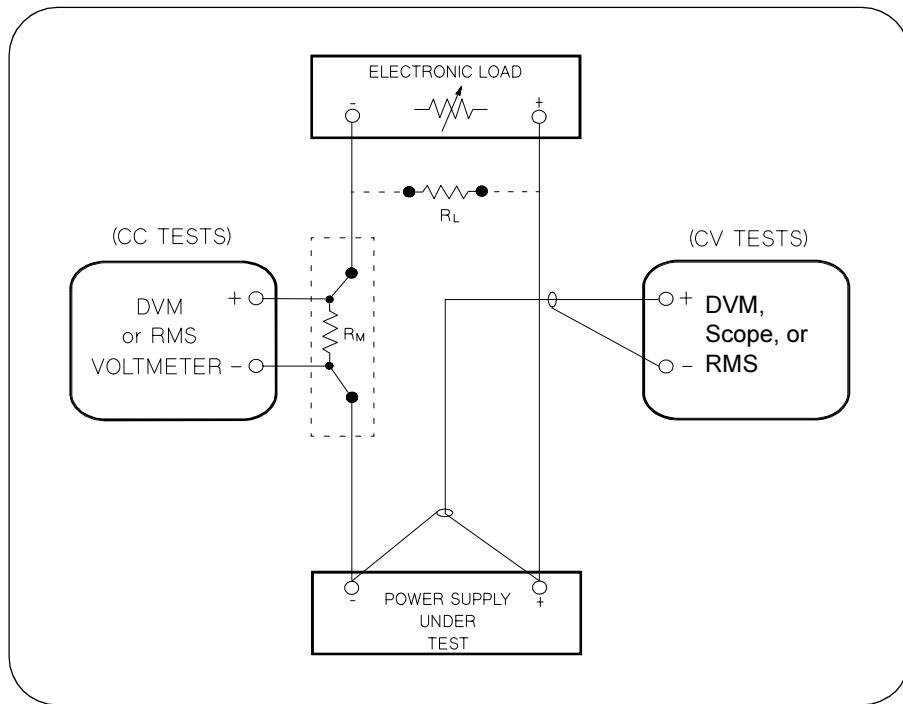

Figure A-1 Performance Verification Test Setup
Most tests are performed at the front terminals as shown in Figure A-1. Measure the dc voltage directly at the (+) and (-) terminals on the front panel.
To eliminate output current measurement error caused by the voltage drops in the leads and connections, connect the current monitoring resistor between the (-) output terminal and the load as a four-terminal device. Connect the current-monitoring leads inside the load-lead connections directly at the monitoring points on the resistor element (see R_M in Figure A-1).
- 1 Turn off the power supply and connect a digital voltmeter between the (+) and (-) terminals of the output to be tested as shown in Figure A-1.
- 1 Turn off the power supply and connect a digital voltmeter between the (+) and (-) terminals of the output as shown in Figure A-1.
- 6 Adjust the transformer to high line voltage (127 Vac for nominal 115 Vac, 110 Vac for nominal 100 Vac, or 253 Vac for nominal 230 Vac). Record the voltage reading on the digital voltmeter. The difference between the digital voltmeter readings in steps (5) and (6) is the CV line regulation. The difference of the readings should be within the limit of (5 mV)* or (9 mV)**.
- 7 Repeat steps (1) through (6) for the other output.
- 1 Turn off the power supply and connect the output to be tested as shown in Figure A-1 to an oscilloscope (ac coupled) between (+) and (-) terminals. Set the oscilloscope to AC mode and bandwidth limit to 20 MHz. Connect a resistive load ($13.5\ \Omega$)[‡] to the terminal at (B) as shown above.
- 6 Repeat steps (1) through (5) for the other output.
- 1 Turn off the power supply and connect the output to be tested as shown in Figure A-1 with an oscilloscope. Operate the electronic load in constant current mode.
- 1 Turn off the power supply and connect a $0.01\ \Omega$ current monitoring resistor (R_{M1}) across the output to be tested and a digital voltmeter across the current monitoring resistor (R_{M1}) as shown in Figure A-1.